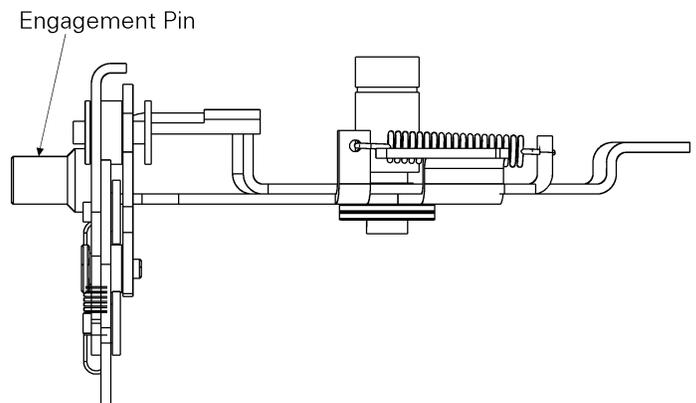

Figure 47. Top view of the Bell Alarm mounting plate, showing the breaker mechanism engagement pin.
1. Place the Bell Alarm mounting plate over the stand-off and secure with a washer and nut. Insert the long bolt, with two washers, through the pivot on the mounting plate and screw it into the tapped hole in the front plate of the breaker. Ensure that the engagement pin on the side of the mounting plate, also shown in the top view in Figure 47, fits into the slot in the breaker mechanism.